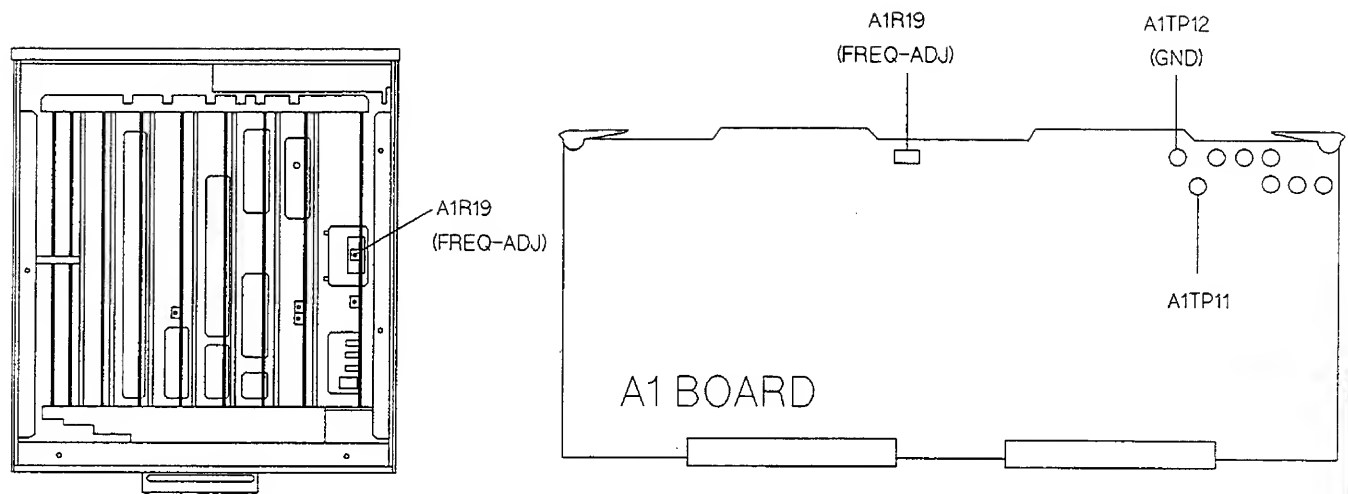
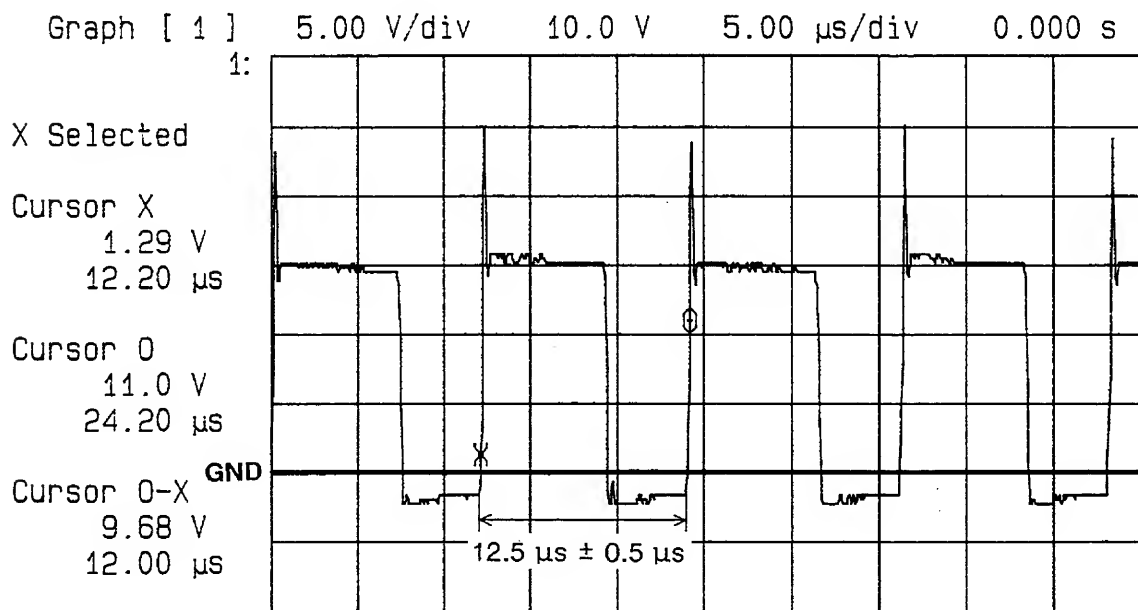

Figure 2-4. Power Supply Frequency Adjustment Location
Figure 2-5. Switching Waveform
4. Connect the probe's ground lead to A1TP12 (**GND**). Then connect the probe's tip to A1TP11. Figure 2-4 shows the location of TP11 and TP12.
7. Adjust A1R19 (**FREQ-ADJ**) until the period (T), of the waveform, is 12.5 μ s \pm 0.5 μ s, as shown in Figure 2-5. Figure 2-4 shows A1R19's location.